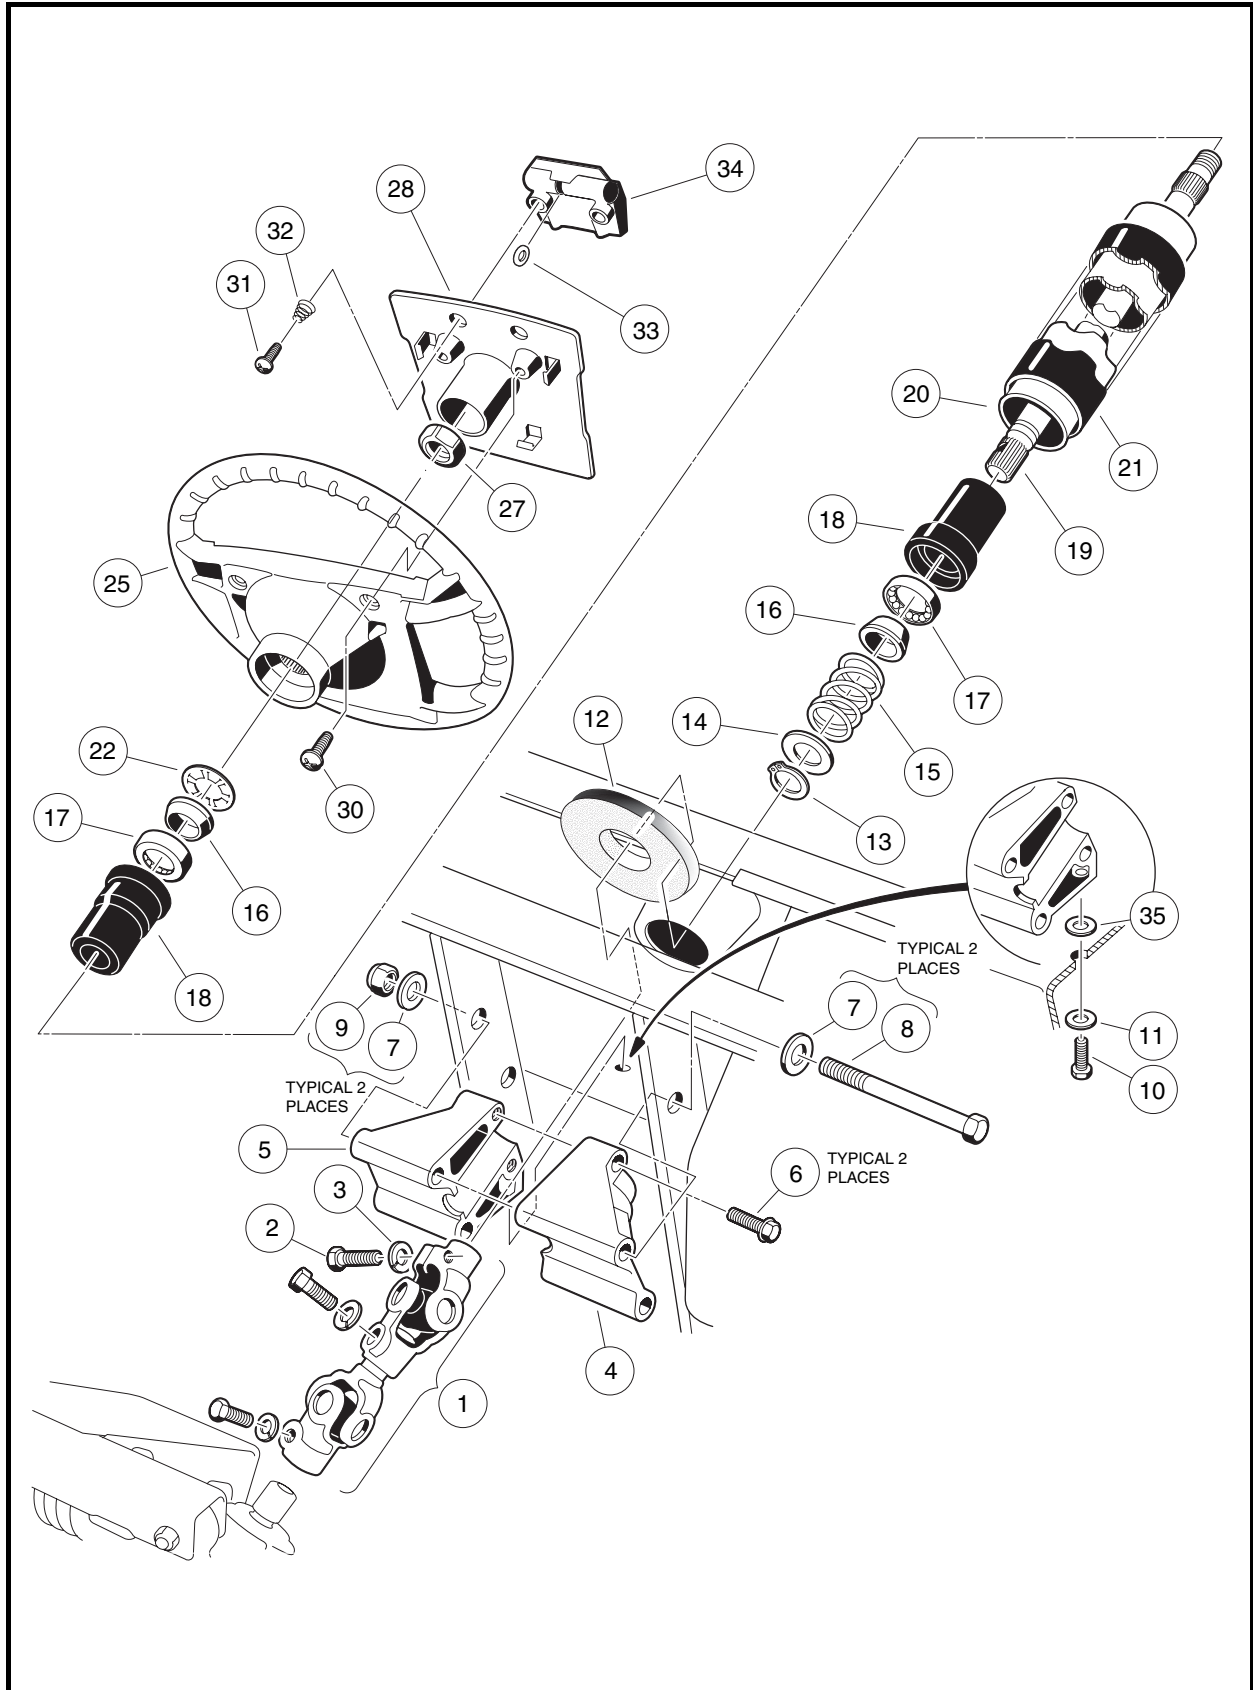

Figure 7-3 Steering Column
2. Remove the two mounting screws (30) and plate (28) (**Figure 7-3, Page 7-3**).
3. Match mark the steering wheel (25) and steering column shaft (19) so when the steering wheel is removed it can be placed back in exactly the same position on steering column shaft (**Figure 7-3, Page 7-3**).
4. Loosen the steering wheel nut (27) and back it off approximately 1/4 inch (6 mm). Do not remove the nut (**Figure 7-3, Page 7-3**).
- 5.6. Remove the steering wheel nut (27) and the steering wheel (25) from the steering column (20) (**Figure 7-3, Page 7-3**).
1. Install the steering wheel (25) on the splines of the steering shaft (19). Be sure to align the match marks placed on the wheel and steering column in step 3 above (**Figure 7-3, Page 7-3**).
2. Install the steering wheel nut (27) and tighten to 13 ft-lb (17.6 N·m).
3. Install the steering wheel plate (28) and plate mounting screws (30) (**Figure 7-3, Page 7-3**). Tighten screws to 16 in-lb (1.8 N·m).
5. Remove the upper bolt (2) and lock washer (3) from the universal joint (**Figure 7-3, Page 7-3**).
6. Remove the nuts (9), bolts (8 and 10), and washers (7, 11, and 35) from the steering column mount (4 and 5) (**Figure 7-3, Page 7-3**).
1. Remove bolts (6) and mounts (4 and 5) from steering column. Remove boot (12) (**Figure 7-3, Page 7-3**).
2. While supporting steering column (20) on a workbench, remove snap ring (13) from shaft. **See following NOTE.**
4. Insert the shaft (19) from the bottom of the steering tube (20) (**Figure 7-3, Page 7-3**).
1. Install boot (12). Reinstall mount (4 and 5) onto the end of the steering column. Tighten bolts (6) to 20 ft-lb (27 N-m) (**Figure 7-3, Page 7-3**).
- Position the steering column assembly in the vehicle while inserting the steering column shaft into the upper universal joint (1). The flat portion of the steering shaft spline (19) must be aligned with the bolt hole in the universal joint (1) before sliding the spline into the universal joint. While holding the steering column in place, attach it to the frame using bolts (8), washers (7), and nuts (9) (**Figure 7-3, Page 7-3**). Thread the nuts onto the bolts but do not tighten them.
- Install washer (35), washer (11), and screw (10). Tighten to 20 ft-lb (27 N·m) (**Figure 7-3, Page 7-3**).
- Install the bolt (2) and lock washer (3) on the upper universal joint and finger-tighten.
- Tighten the two nuts (9) and bolts (8) to 18 ft-lb (24.4 N·m) (**Figure 7-3, Page 7-3**).
- Tighten the bolt (2) on the upper universal joint to 15 ft-lb (20 N·m) (**Figure 7-3, Page 7-3**).
- Check the other two bolts of the universal joint (1) to ensure that they are properly tightened to 15 ft-lb (20 N·m) (**Figure 7-3, Page 7-3**).
5. Remove the bolt (2) and flat washer (3) on the upper universal joint, then remove the rack assembly and universal joint from the vehicle (**Figure 7-3, Page 7-3**).